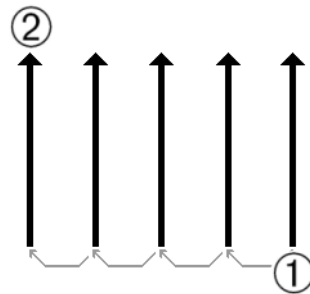

Figure 48: Given manner
Figure 48 shows all different ways of scanning in a scheme. The measurement starts at your starting point ① and ends at point ②.